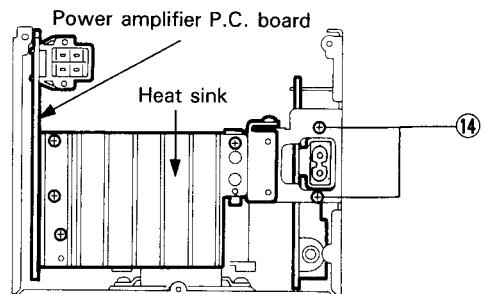

Fig. 7-15
3. Remove the two screws ⑰ retaining the power supply P.C. board (Refer to Fig. 7-15).